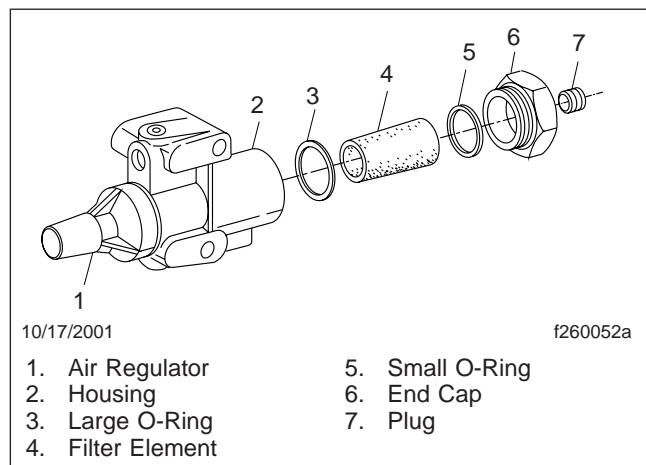

Fig. 10, Eaton Fuller Transmission Air Filter/Regulator Components
3. Remove the end cap, large O-ring, and filter element from the filter housing. See **Fig. 10**. Remove the small O-ring from the end cap.